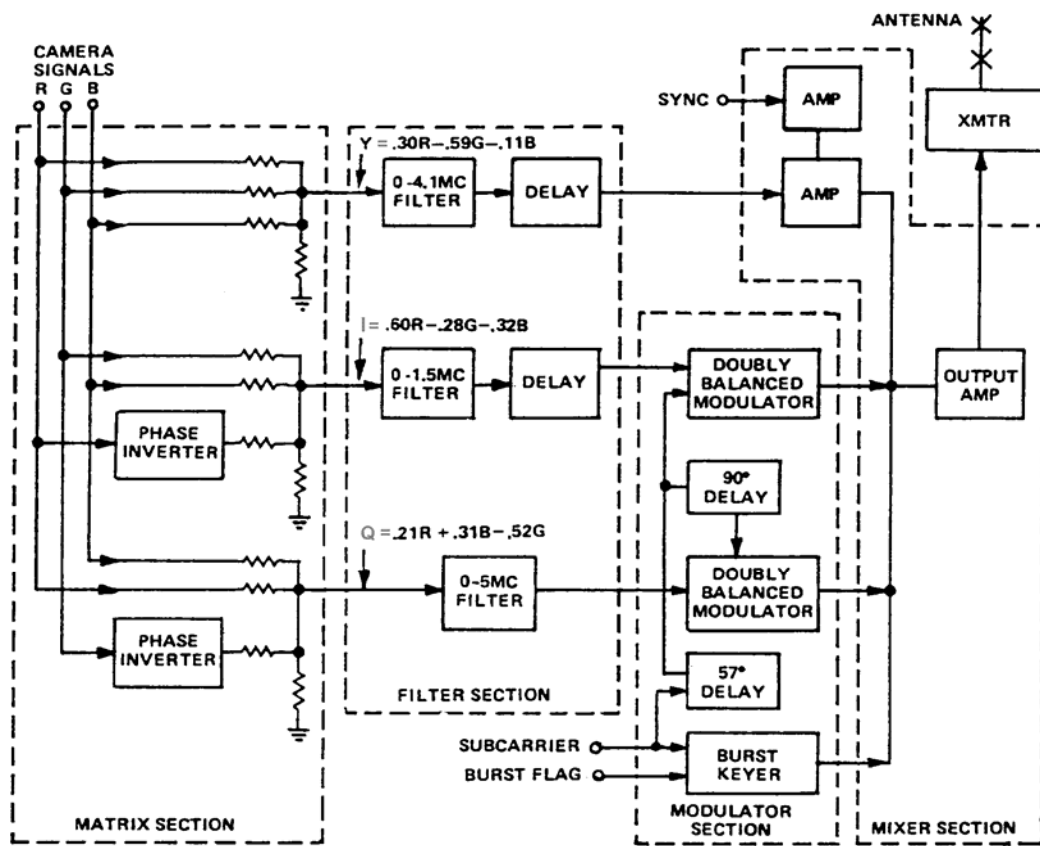
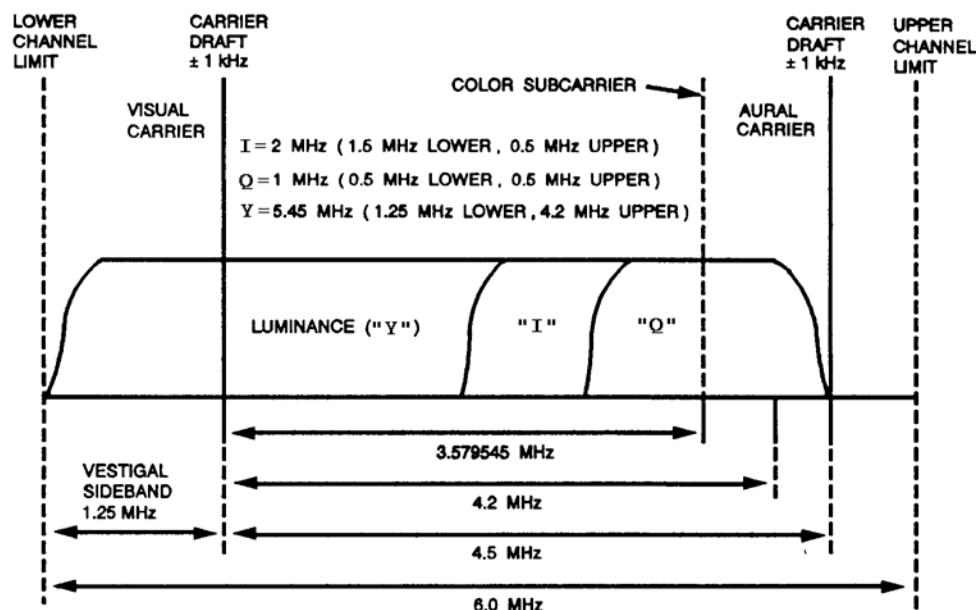

Figure S-24. Simplified Block Diagram of an Encoder
Figure S-29. TV Channel with Color Components
a. Encoders are sometimes referred to as the heart of the television system. This unit combines the various individual signals originating at the camera into a composite color television signal. Figure S-24 shows a typical encoder. As can be seen, the red, blue, and signals from the camera enter the encoder and are fed to the matrix section.
(1) In the I matrix and amplifier, on the base there is we have +28 green +32 blue = -60. Blue 60 when added to the base voltage of -60 = 0. This means that if the camera is picking up a black and white scene, the three signals cancel; there is no I signal.
(2) The Q matrix works similarly. This produces brightness with no color. The red and green inputs were inverted in phase in order to produce the I and Q signals. Therefore the amplifier associated with the matrix for the I and Q signals is usually referred to as an inverter.
f. Band Limiting and Delay. Refer back to Figure S-24. The outputs of the individual matrix sections feed the filter section. The filter section establishes a bandpass of each of the video signals, 4.1 MHz for Y, 1.5 MHz for I, and 0.5 MHz for Q. The I channel is broad-banded but has vestigial sideband characteristics because of the upper-frequency cutoff of the transmitter (see Figure S-29). This channel is single sideband for frequencies higher than 0.5 MHz.
(1) Transmission of frequencies up to 0.5 MHz is double sideband on both the I and Q channels. Such operation allows two types of receiver action:
(3) In the mixer section of the colorplexer (refer to Figure S-24), the outputs of the Y, I, Q, and burst keyer sections are added together to form the composite color signal.
(4) Figure S-29 shows the bandpass now formed with the addition of the I and Q signals.